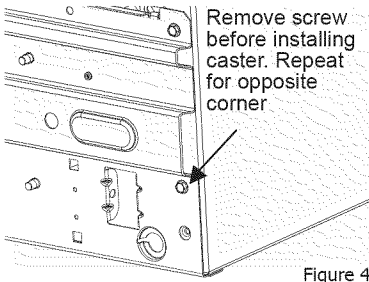

Figure 4
1. Remove and discard the screws shown in Figure 4 from each bottom corner using a  $\frac{5}{16}$ " socket wrench.